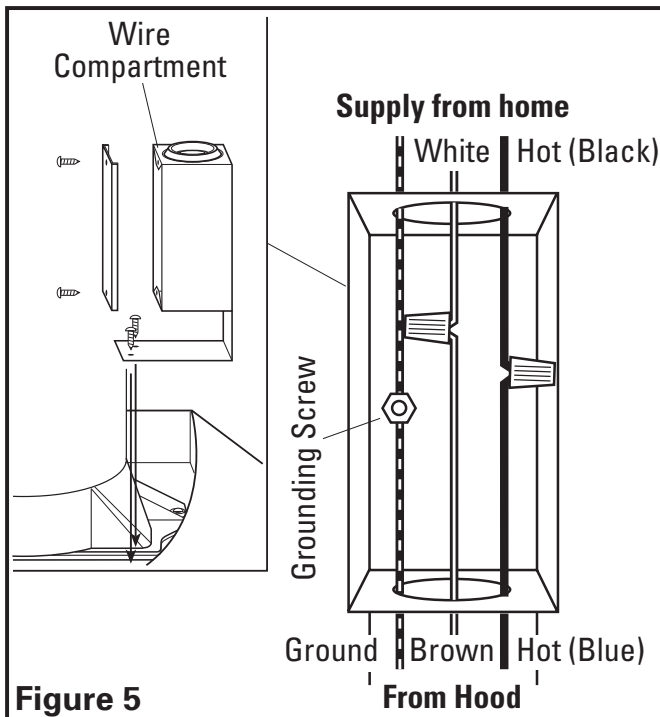

Figure 5
1. Attach wire compartment to the hood with two of the provided 3.9 x 13 mm screws. Remove wire compartment cover and connect the brown wire (on some models this wire will be white) from the range hood to the white wire from the supply, and the blue wire (on some models this wire will be black) from the range hood to the black wire of the supply. Connect the ground wires from the home (green or bare) and the hood (green/yellow) to the grounding screw in the wire compartment. Use approved methods for all connections (**Figure 5**).